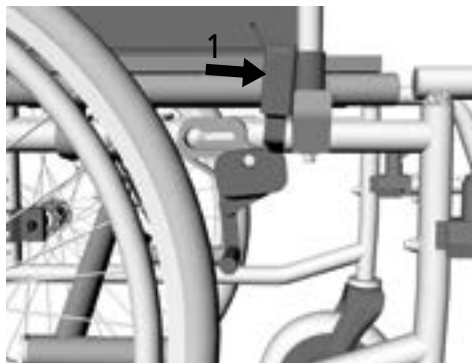

fig. 12
1. Press the brake lever forwards so that the brake blocks the wheel (1, fig. 12).